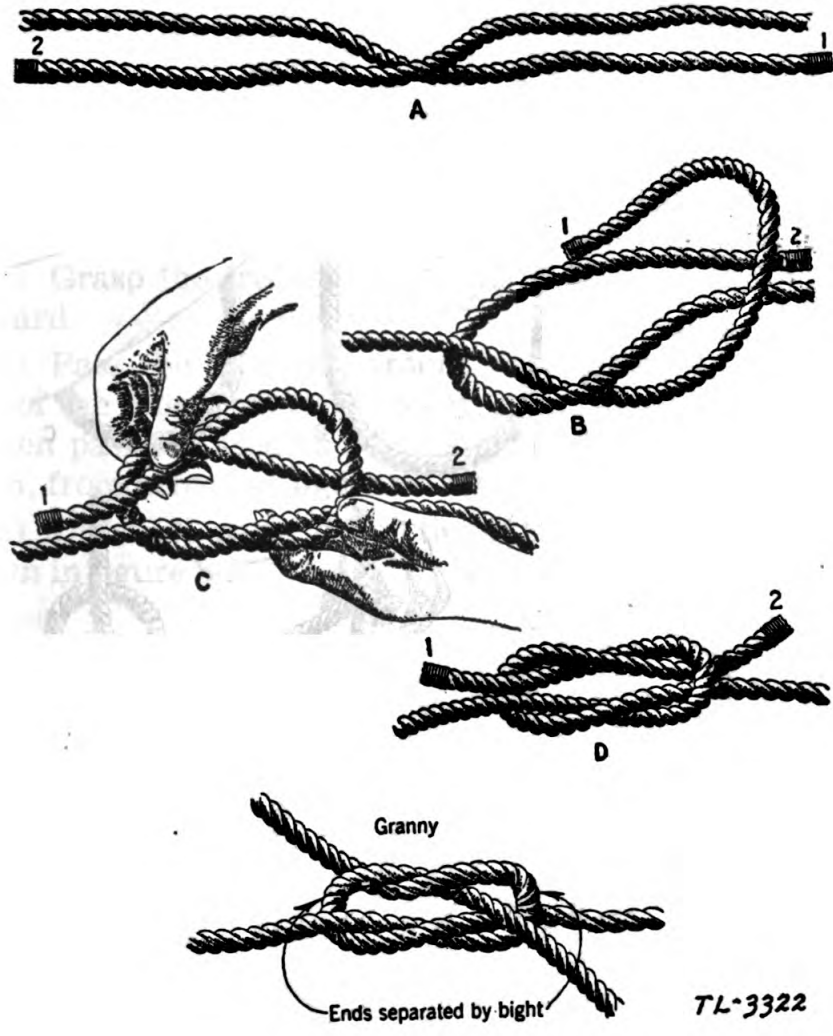

Figure 7
c. Square knot.—This knot is used in uniting the ends of the same size ropes, that may be placed under strain. A square knot, joining two ropes of unequal size is very apt to slip. Figure 7 illustrates a square knot.
- (1) Cross the ends of the rope, placing the right under the left as in figure 7-A.
- (2) Bend each rope back on itself as shown in 7-B.
- (3) Wrap end marked 1, around the end marked 2, away from you as shown in 7-C.
(4) Pull all parts down tight. The completed knot is shown in 7-D.
A *granny knot* is shown in figure 7, so that it may be readily identified and avoided.